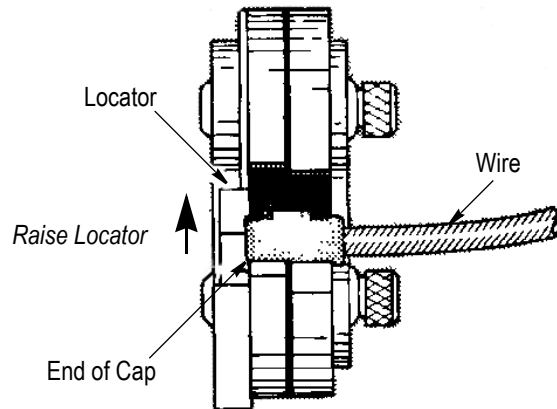

Figure 2
- Close the tool handles until the jaws or dies partially close, but leave enough space for the spare wire cap to be inserted into the crimping chamber. Refer to Detail A of Figure 2, Figure 3, or Figure 4.
- Place the wire barrel of the cap in the crimping chamber as shown in Detail A of Figure 2, Figure 3, or Figure 4. Then, proceed with the following:
Raise the locator so that the end of the cap rests against the recessed surface of the locator. Refer to Detail B of Figure 2.